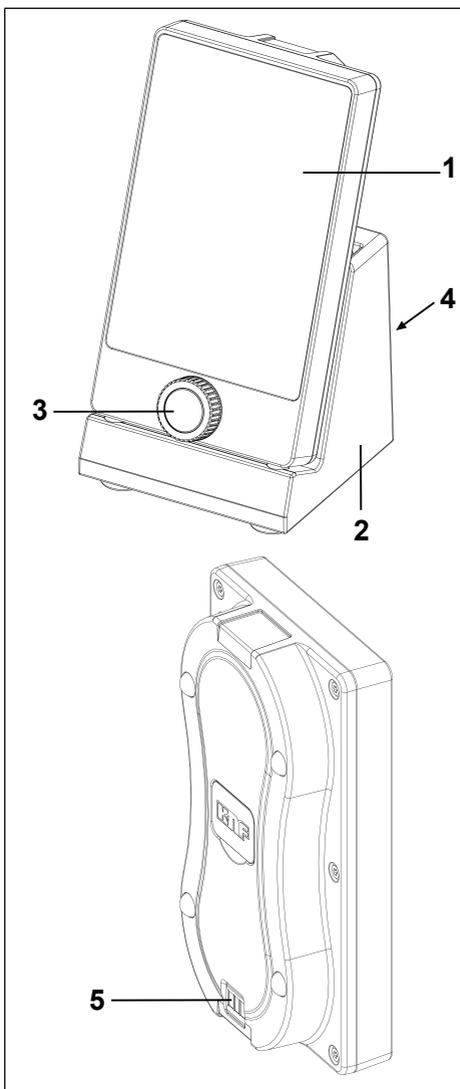

Fig. 13: Vacuum controller
- a rotary knob (Fig. 13/3) and
- a touchscreen (Fig. 13/1).
Place the vacuum controller in the support for the handheld terminal (Fig. 13/2) with the underside facing down. An acoustic signal is emitted and the border around the battery symbol pulsates.